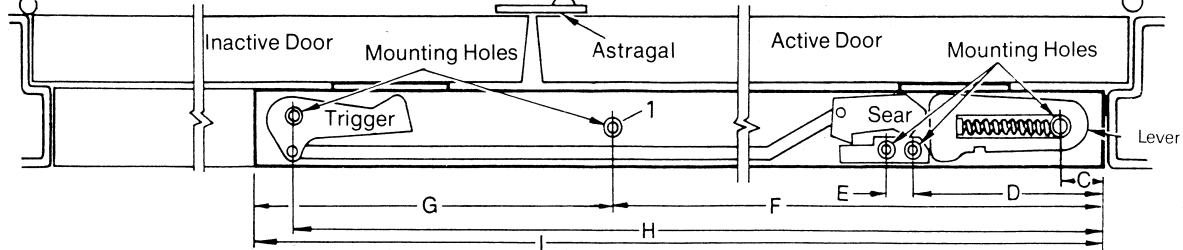

FIG. 3
- Filler pieces** (see Figure 3) 297F are used to completely fill opening between end of coordinator and face of inactive door stop.